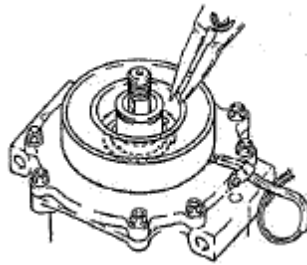

Figure 12-06
- (1) Loosen lead wire clamp screw with #2 Phillips screwdriver until wire(s) can be slipped out from under clamp.
- (2) Undo any wire connections on the compressor which would prevent removal of the field coil assembly.
- (3) Remove snap ring.
- (4) Remove the field coil assembly. (Ref. Figure 12-06)